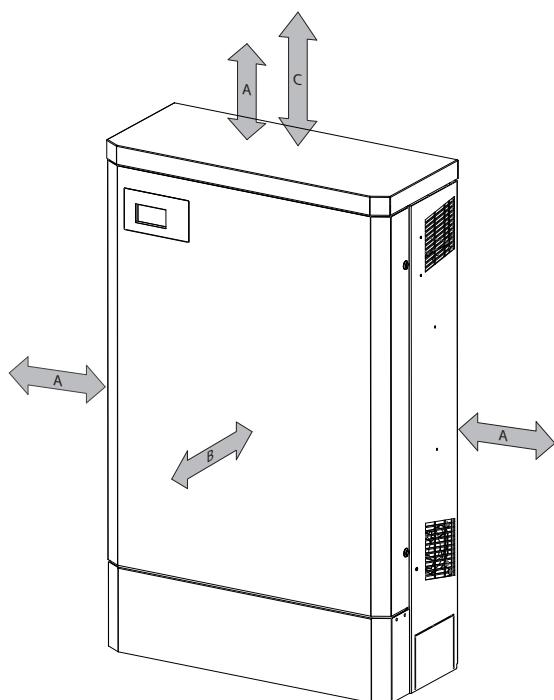

Figure 11: Minimum clearances
- Minimum clearances to be observed during assembly: see Figure 11 on page 17.